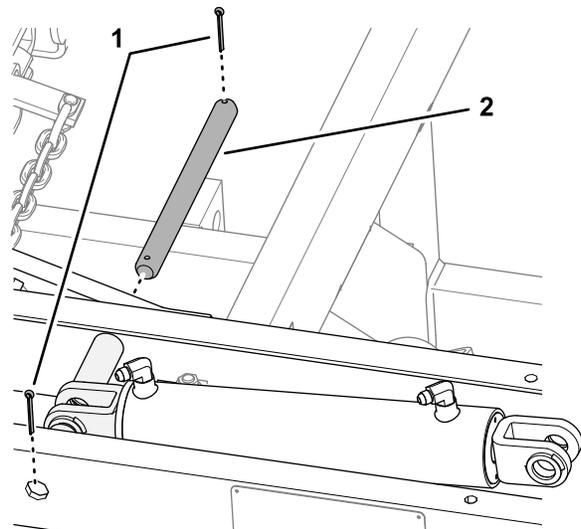

Figure 10
- Assemble the shaft—25 x 305 mm (1 x 12 inches) through the spacer tubes and the cylinder-body flanges (Figure 10).
- Secure the shaft to the cross channels (Figure 10) with 2 cotter pins (3/16 x 1-3/4 inches).